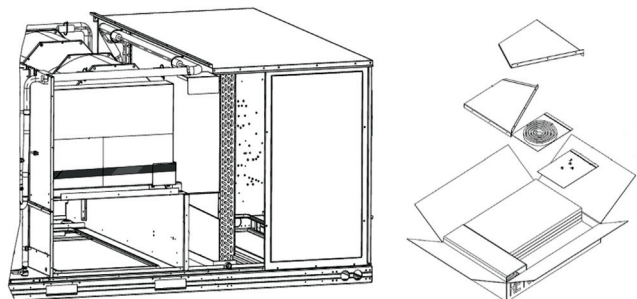

Fig. 25 — Barometric Hood Box Parts Location
2. Remove the side panels located in the hood parts box (see Fig. 25).